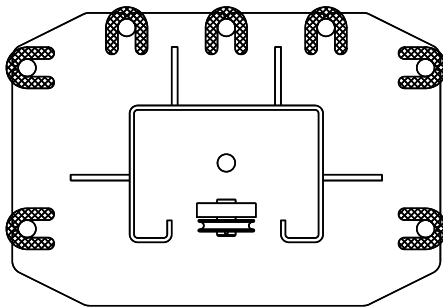

Fig. 2 – Column Shimming
- 14) Check idler column shimming. Use additional shims (see Fig. 2) to remove any gaps that may have been created while installing overhead beam. Tighten anchor bolts and recheck column for plumb. Torque to 150 foot-pounds.